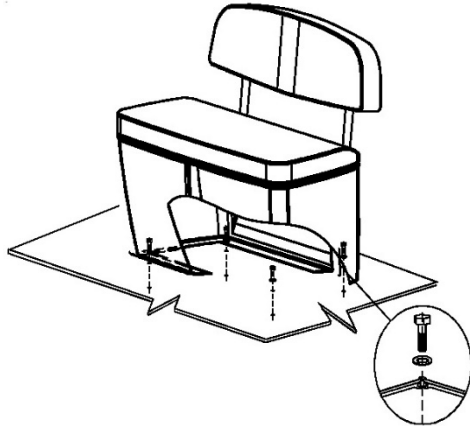

Fig. 9. Installation of container.
- Fix container to the deck by means of bolts M8\*25 and toothed lock washer (see Fig.9).